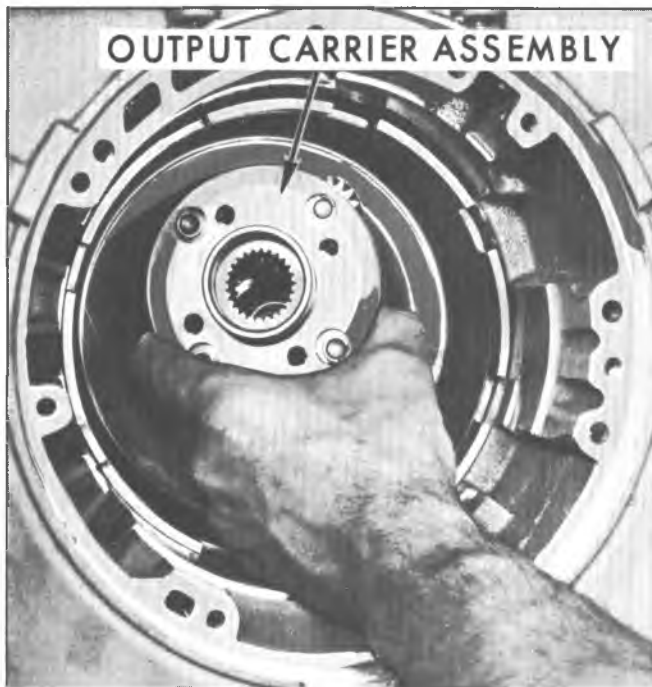

Fig. 37M--Removing Output Carrier Assembly
12. Remove output carrier assembly (fig. 37M).